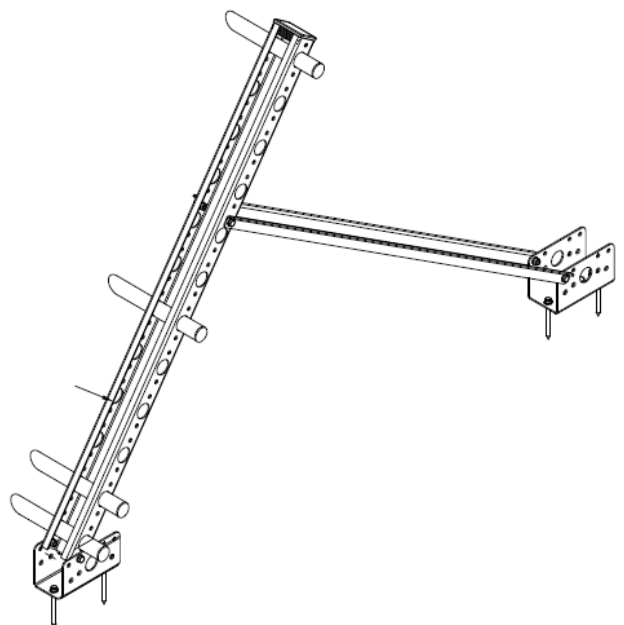

Figure 3.
- Screw the U-bracket plates to the roof using 4 M8x60 mm screws (Figure 3).
- To the U-bracket plates, attach the strut and the ties using 6 M6x16 screws with nuts. The strut must be fastened in a vertical position (Figure 3).